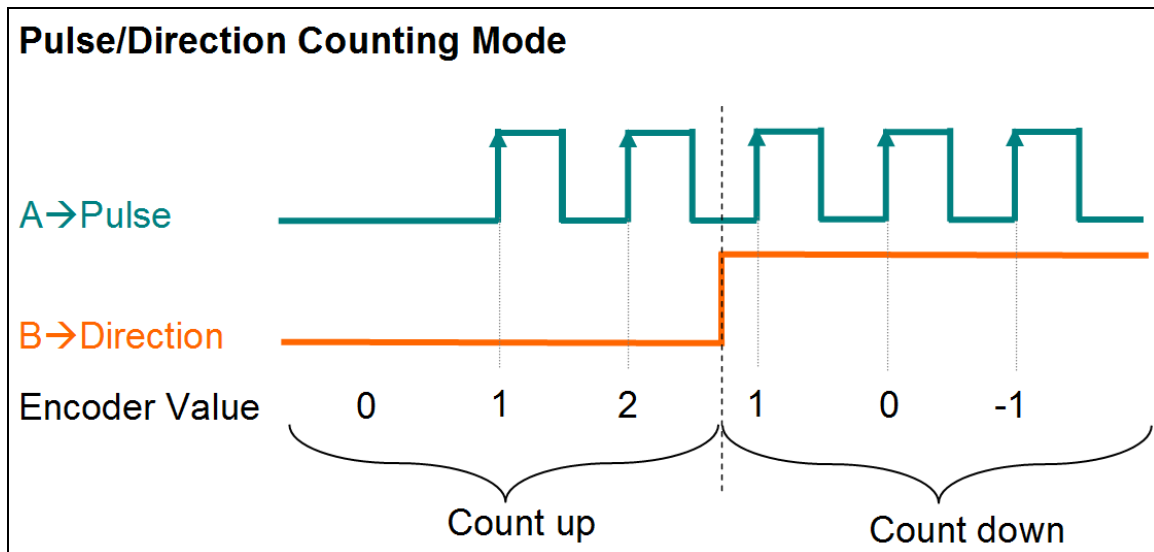

Figure 24: Pulse/Direction counting mode
In the **pulse/direction counting mode** (Figure 24) one input signal line is being used to indicate the position and a second one indicates the direction of motion, either forward or reverse. The "A" signal serves as the counter input and the "B" signal serves as the direction input (B = high: enables up count; B = low: enables down count). The ECAT-2093 counts the rising or falling edges of the "A" signal pulses and the "B" signal determines the direction of the count and decides whether to increment or decrement the counter. On every active input signal "A" the position counter is incremented by one when the direction input "B" signal is high and decremented by one when the direction input "B" is low.
- By changing the signal "B" polarity which indicates the direction for the pulse/direction counting mode (Figure 24) the counting direction will change.